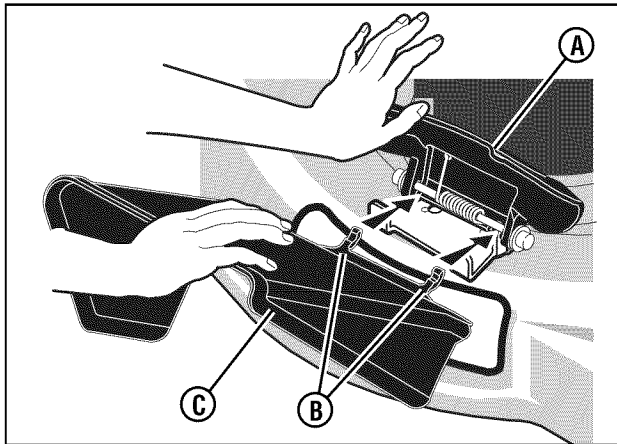

Figure 8: Installing the side discharge deflector
1. Raise the mulcher cover (**A, Figure 8**).